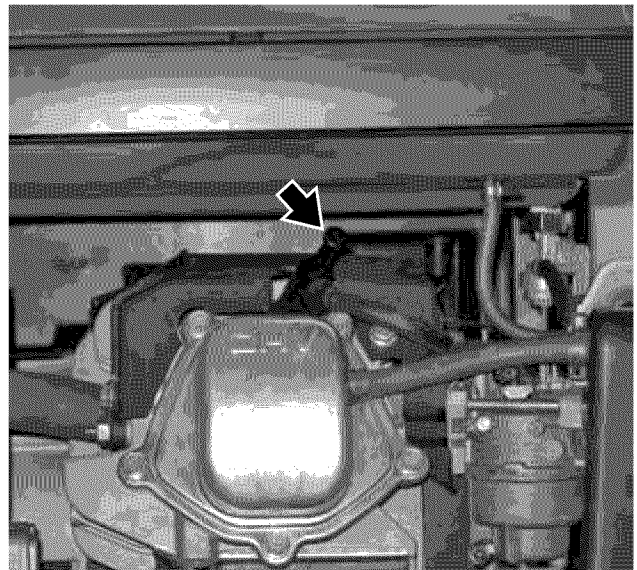

Figure 39 – Removal of Spark Plug Boot
3. Remove the spark plug boot by firmly pulling the plastic spark plug boot handle directly away from the engine (see Figure 39).